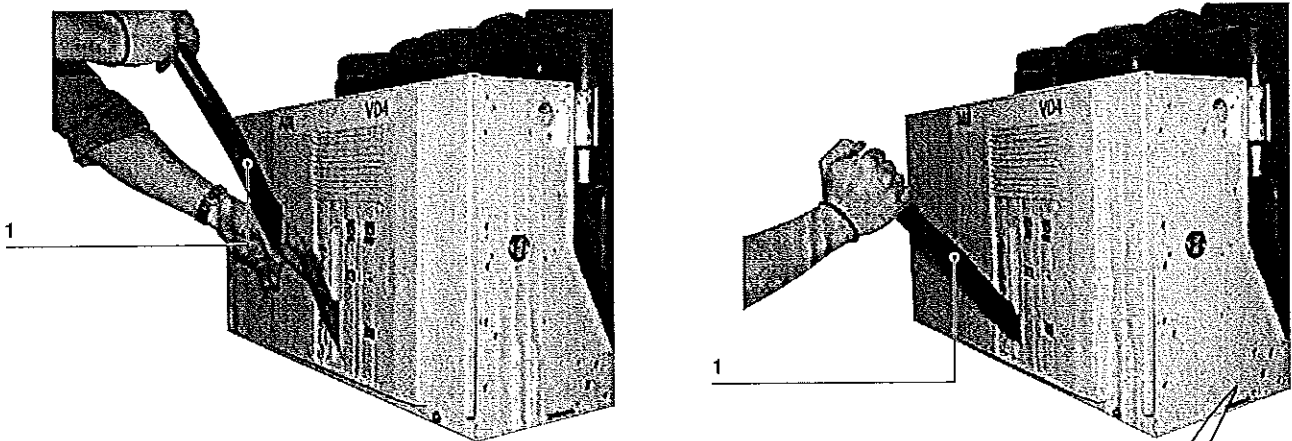

Fig. 7c
EL1 Twin and EL2 Twin type operating mechanisms are provided for circuit-breakers with 50 kA breaking capacity. For manual charging, the additional lever (1) should be inserted fully, as indicated in fig. 7c. In this way, the maximum force to be applied is  $\leq 200$  N. For the type of operating mechanism, please refer to the rating plate in fig. 1.